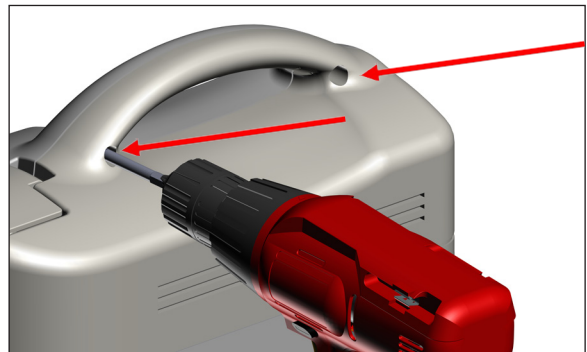

Figure 18 - Step 3 Remove two handle screws
3. Remove the two handle screws. Do not discard the screws (Figure 18).